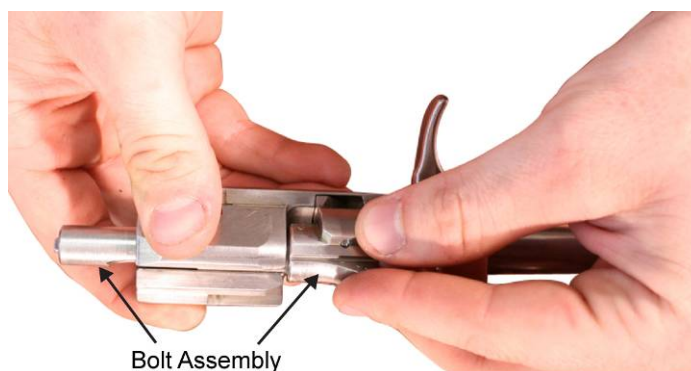

Figure 5. Mating the Bolt Cam with the Cam Recess.
2. Rotate the bolt to mate the bolt cam, located on the locking lug, with the machined cam recess of the carrier. Refer to Figure 5.